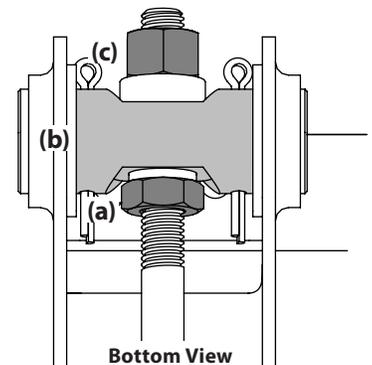

Figure 4-9
5. Using a wrench, raise the front of the deck by loosening the lock nuts (a) to the front of the pivot pin (b) and then tighten the jam nuts (c) on the back of the pivot pin to raise the front of the deck and secure in place. See Figure 4-9.
- Using a wrench, lower the front of the deck by loosening the jam nuts (c) on the back of the pivot pin (b) and then tighten the lock nut (a) on the front of the pivot pin to lower the front of the deck and secure in place. See Figure 4-9.